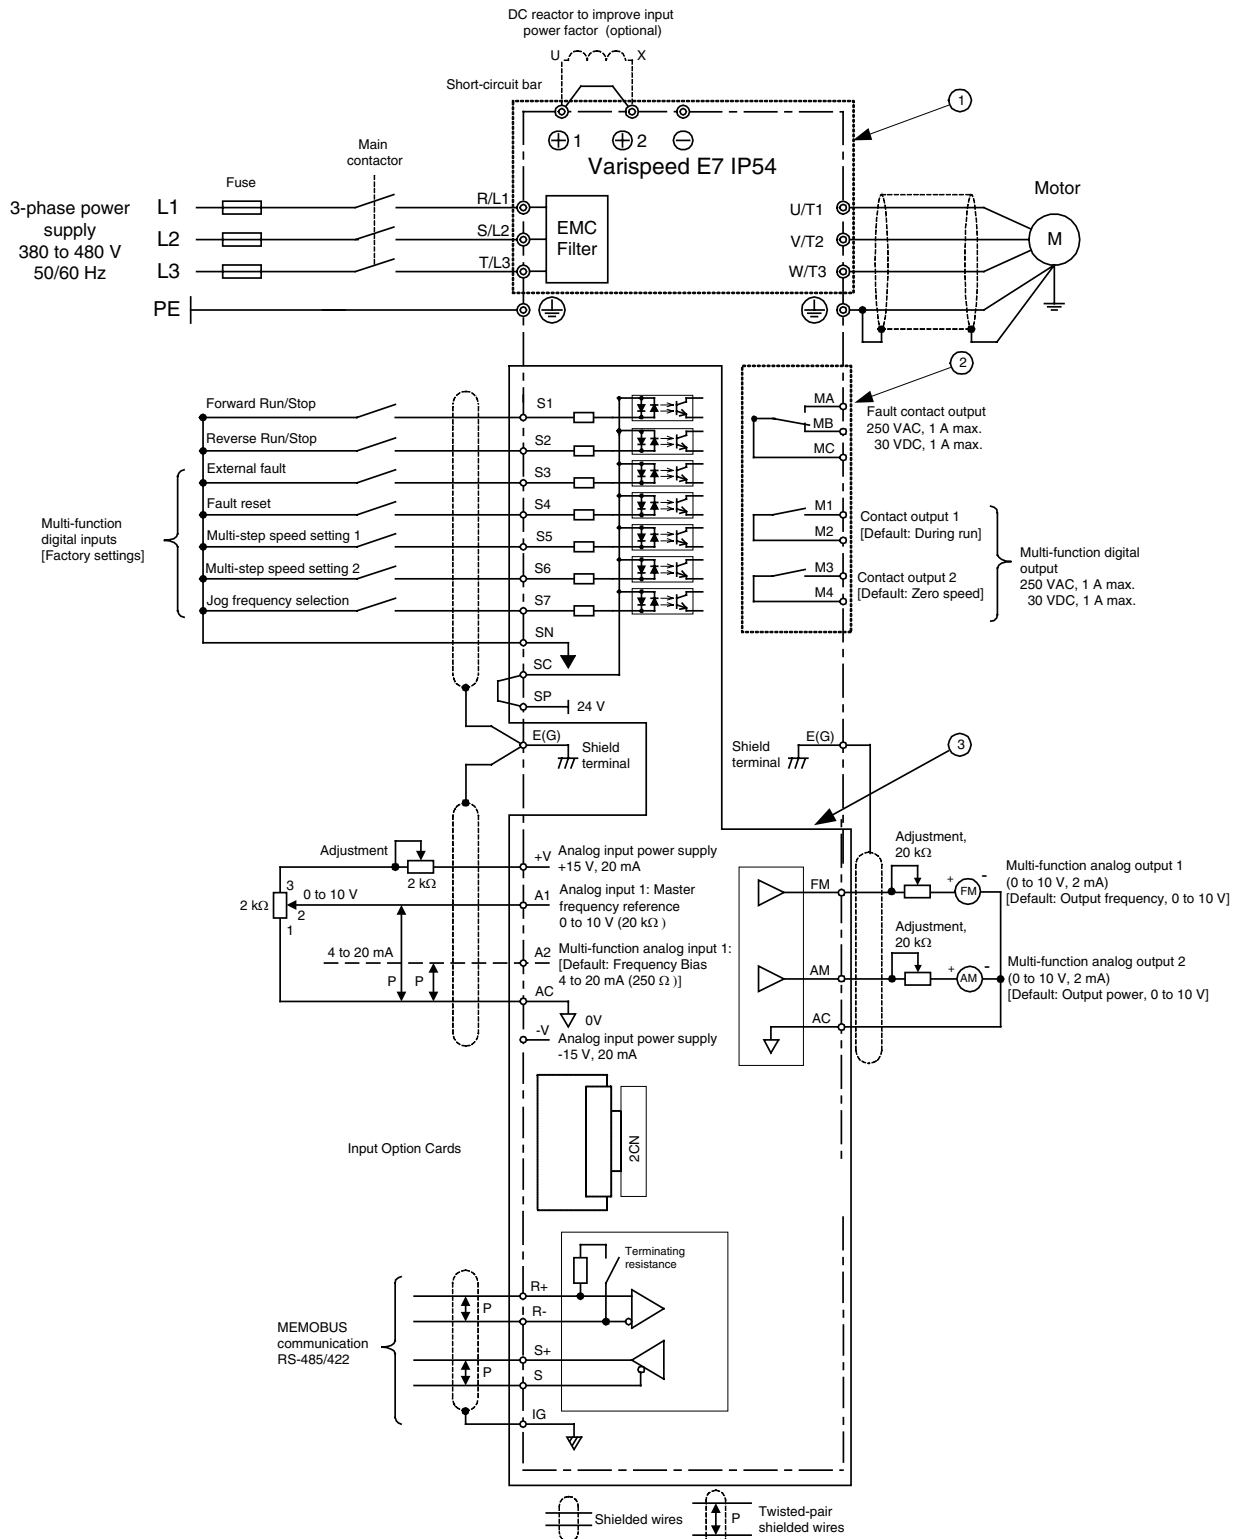

Fig 2 Wiring Diagram
- In Fig 2 the wiring of the digital inputs S1 to S7 is shown for the connection of contacts or NPN transistors (0V common and sinking mode). This is the default setting. For the connection of PNP transistors or for using a 24V external power supply, refer to Table 3.